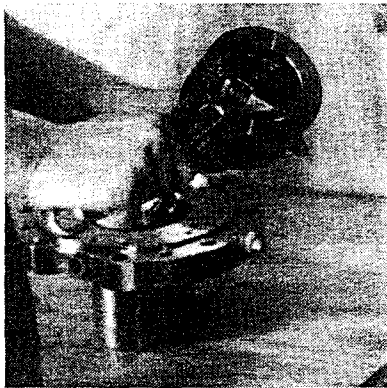

Figure 16
13. Loosen the sleeve bolt set screw (Item 12) and remove the sleeve bolt (Item 7) [Fig. 16]. Remove the sleeve, the thrust ring, the inner magnet, and the inner magnet key (Item 16).